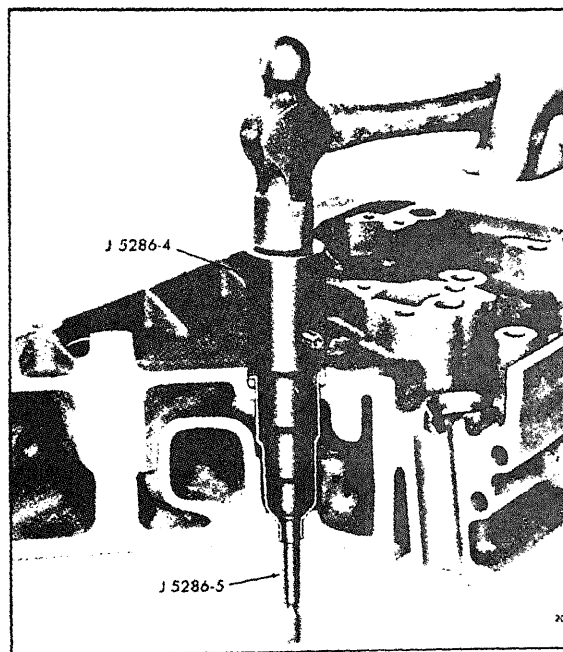

Fig. 2 - Installing Injector Tube
2. Place the installer J 5286-4 in the injector tube. Then insert the pilot J 5286-5 through the small opening of the injector tube and thread it into the tapped end of the installer (Fig. 2).
3. Slip the injector tube into the injector bore and drive it in place as shown in Fig. 2. Sealing is accomplished between the head counterbore (inside diameter) and outside diameter of the injector tube. The tube flange is merely used to retain the seal ring.